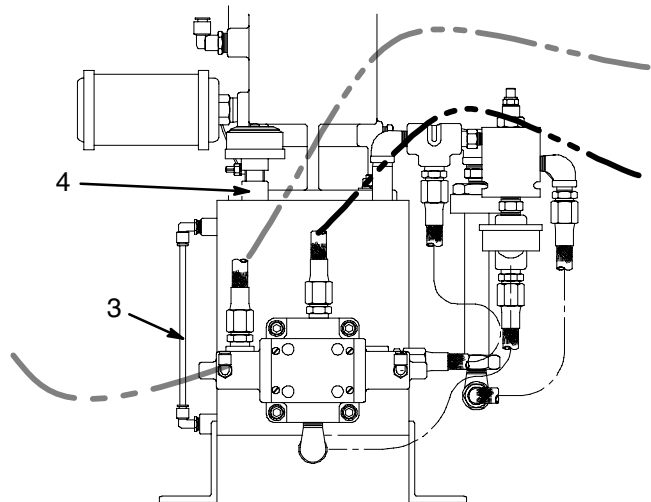

Fig. 9
Check the hydraulic fluid level in the supply unit (Fig. 9). It should be approximately 51–102 mm (2 – 4”) from the top of the fluid level gauge (3). If necessary, add more hydraulic fluid, through the breather hole (4) (Graco part# 169236).